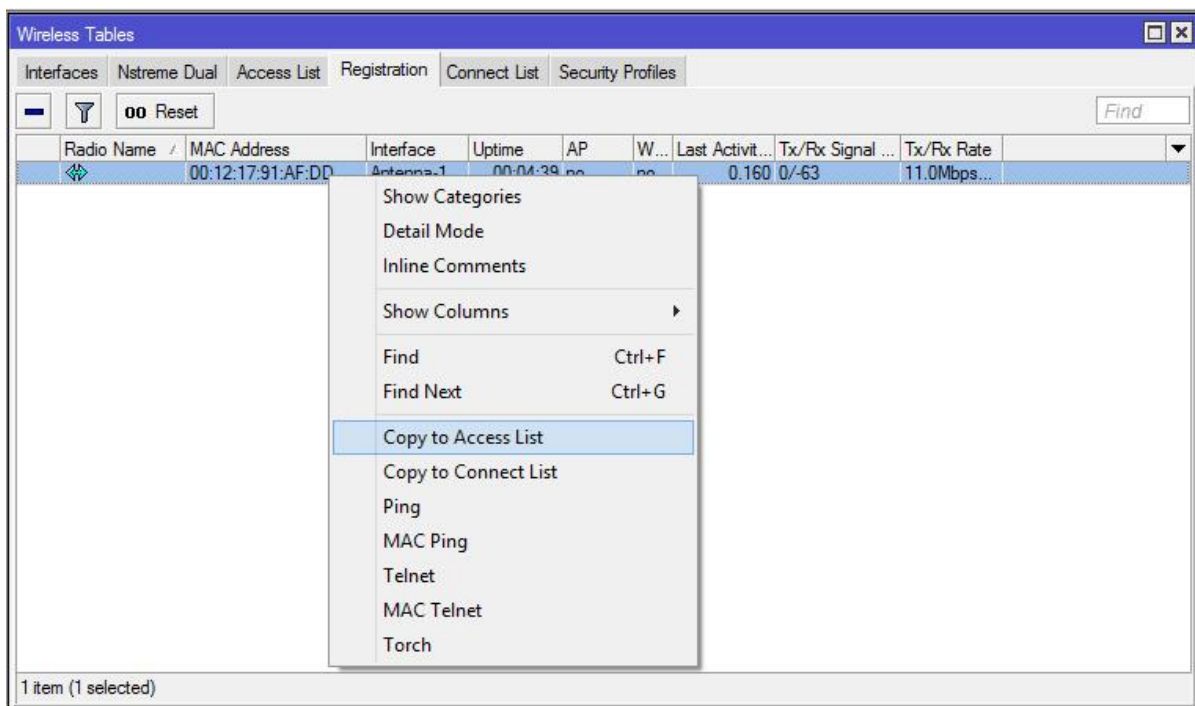

Figure 10. Wireless Tables Dialog Box – Registration List
2. At this point, check the network settings on your computer. Select **Control Panel**, then **Network and Internet Connections** and then **Network Connections**. The LAN icon should be displayed as shown in Figure 10 below with associated link information.